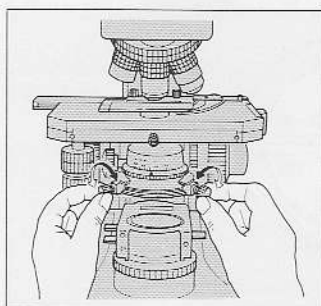
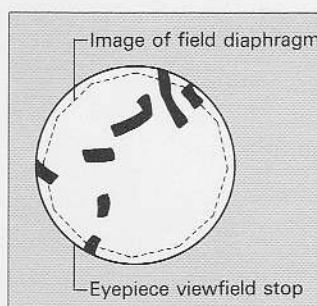

Fig.10-1
Fig. 10-3
- (2) If the image decenters from the viewfield of the eyepiece, bring it roughly to the center of the viewfield by means of the condenser centering screws (Fig. 10-1 and 2).
- (3) Change to the 40X objective. Focus on the specimen by turning the fine focus knob and form an image of the field diaphragm on the specimen surface by manipulating the condenser focus knob.
- (4) When the image decenters from the viewfield of the eyepiece, bring it to the center of the viewfield by means of the condenser centering screws. At this time, the centering will be facilitated by adjusting the size of the image of the field diaphragm to be slightly smaller than the viewfield of the eyepiece by manipulating the viewfield diaphragm control ring (Fig. 10-3).